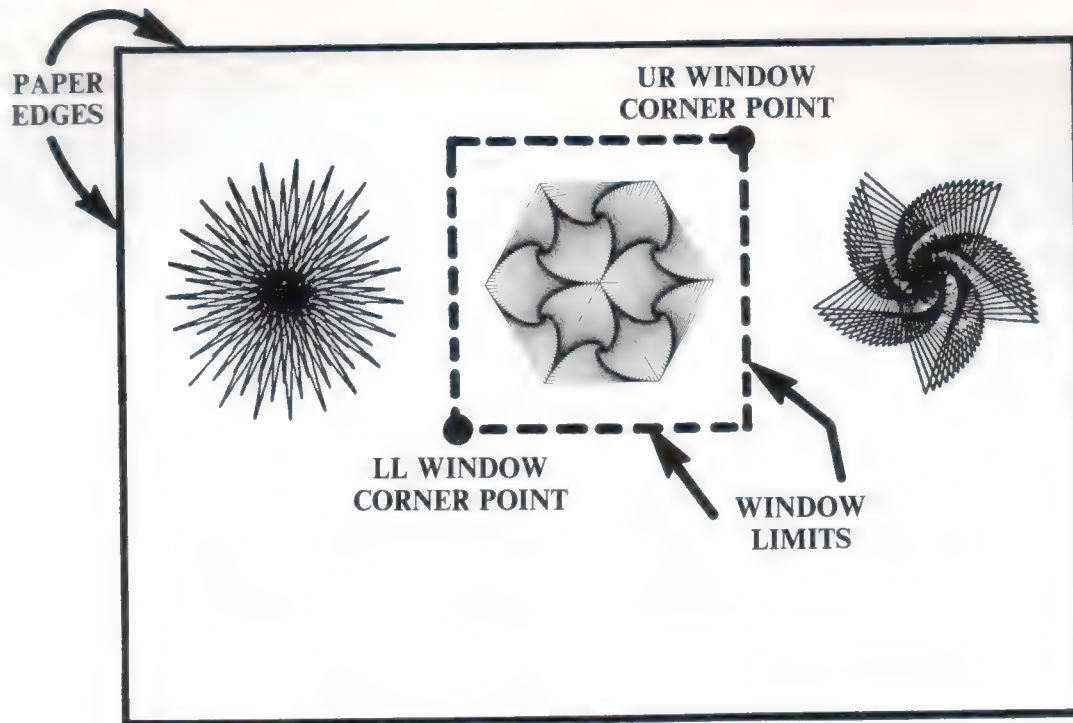
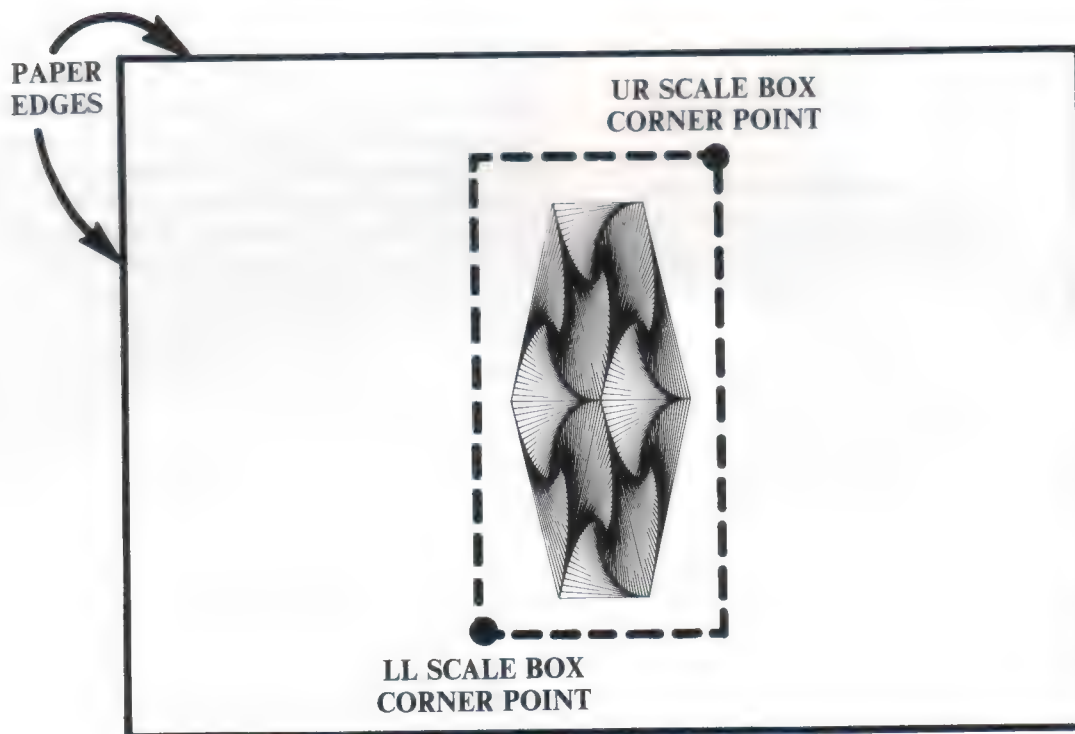
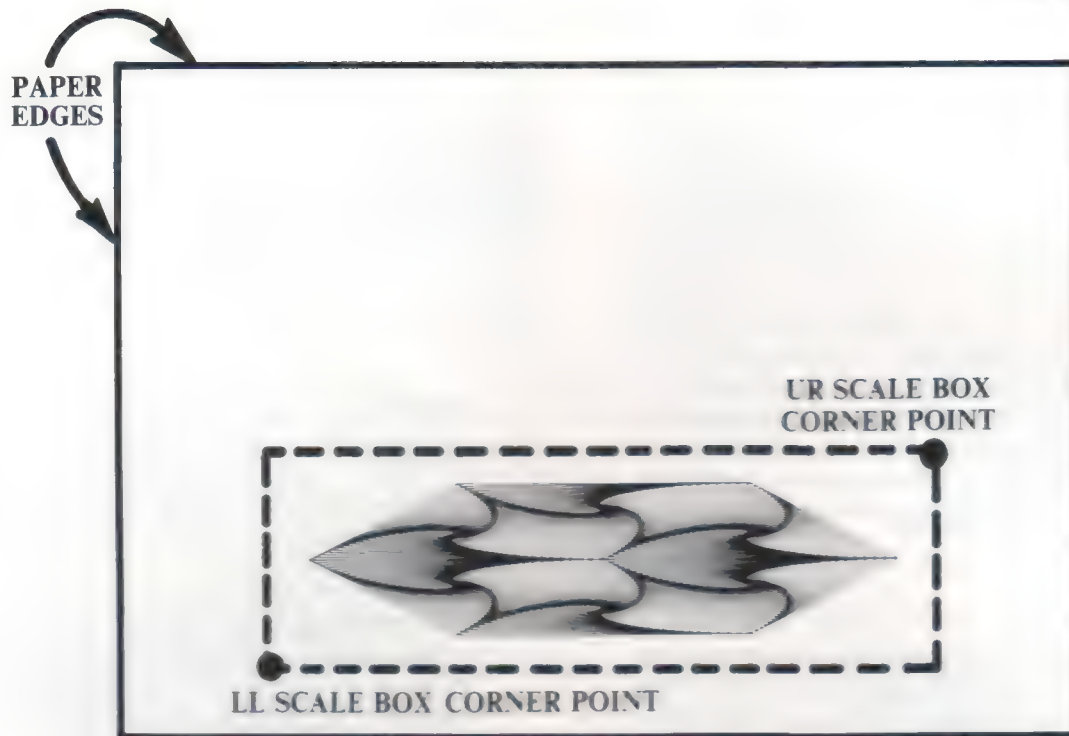
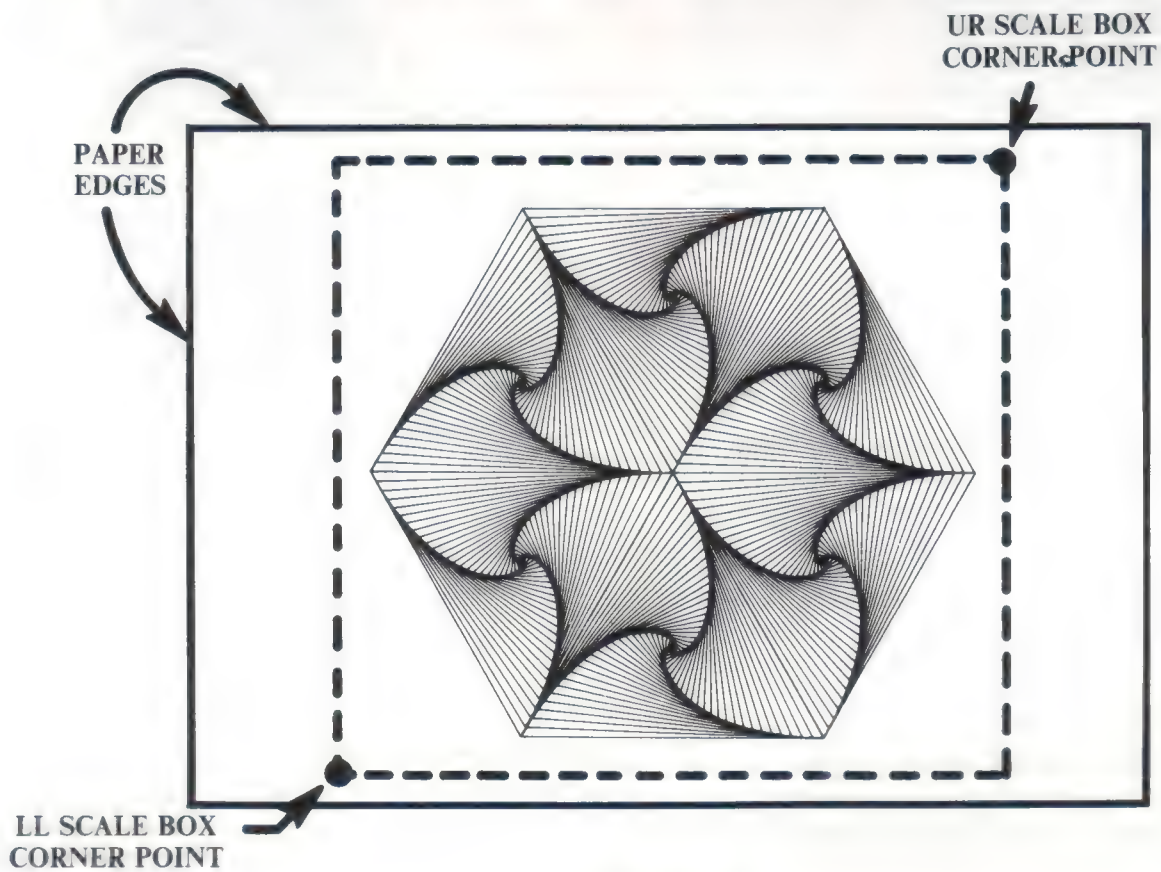

FIGURE 2-4
FIGURE 2-5a
FIGURE 2-5b
FIGURE 2-5c
The subpart of a plot design that is selected to be re-plotted is called a *Window plot*. A Window plot is created by specifying an imaginary rectangle around a subpart using two points, called the *lower left (LL)* and the *upper right (UR)* Window corner points (see Figure 2-4). The lines of the imaginary rectangle are called *Window limits*. Only the plot data within the specified Window limits will be processed by the Plotter when the design's program is rerun, thus, only the subpart (Window plot) will be plotted on the paper.
If a subpart of a plot design is selected as a Window plot and then the program is rerun, the subpart will be plotted at the same size as it appeared in the full plot design. However, if you want the subpart plotted at a larger or smaller size, or with a different height-to-width ratio (aspect) for a special visual effect, you can specify these changes with the *Scale Box* function before rerunning the program. Like the Window, the Scale Box is an imaginary rectangle which must be specified by two points, called the *lower left (LL)* and the *upper right (UR)* Scale Box corner points. The lines of the imaginary rectangle are called *Scale Box limits*. If a Scale Box rectangle is specified after a Window rectangle is placed around a subpart, the Plotter will process the plot data defined in the Window *at the size specified by the Scale Box rectangle*. For example, if a Scale Box rectangle is specified the same length as the Figure 2-4 Window, but three times the height, the subpart plot will appear "squeezed" when the program is rerun (see Figure 2-5a). If a Scale Box rectangle is specified the same height as the Window, but three times the length, the subpart plot will appear "stretched" (see Figure 2-5b). If the Scale Box rectangle is specified three times the height and length of the Window rectangle, the subpart plot will appear three times as large (see Figure 2-5c).